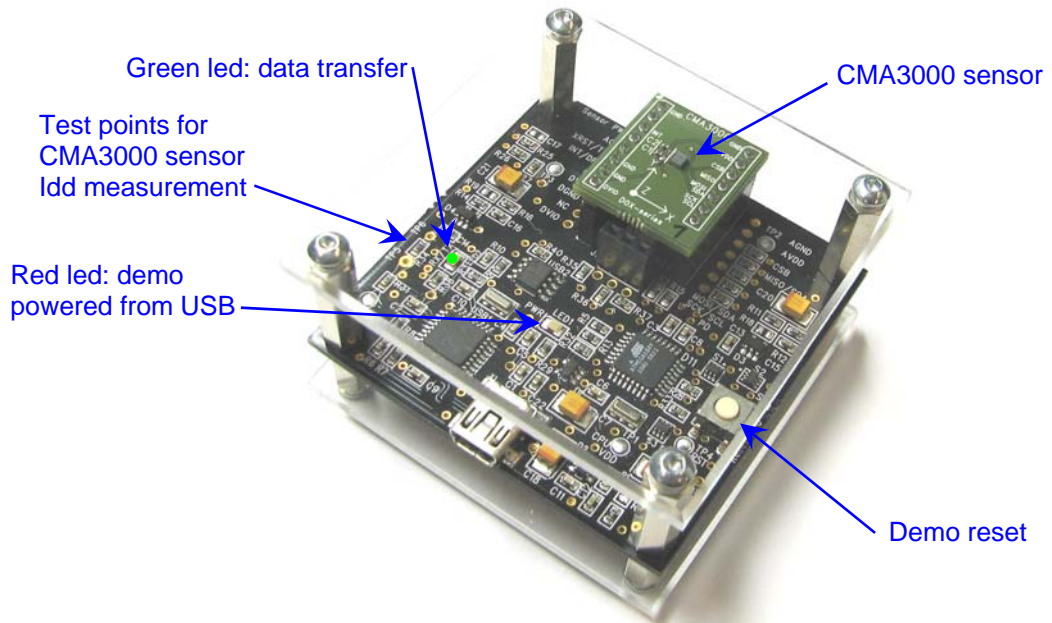
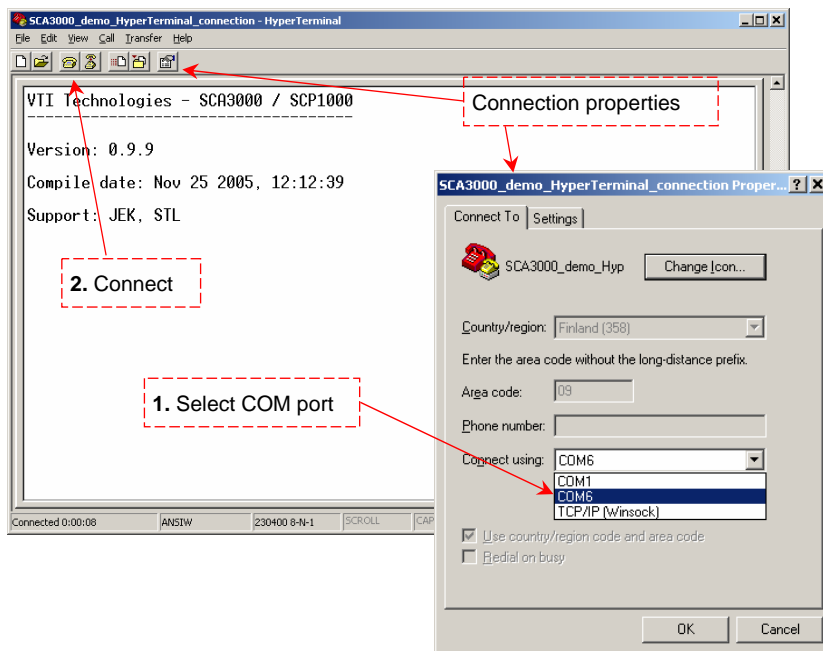

Figure 1. CMA3000 demo USB interface board and CMA3000 PWB.
Figure 12. Windows HyperTerminal with CMA3000 demo info text.
- CMA3000 sensor soldered on chip carrier PWB (see Figure 1 on next page)
- USB interface card (see Figure 1 on next page)
The CMA3000 DEMO KIT USB interface board (black PWB) and CMA3000 PWB (green PWB) are shown in Figure 1. The USB interface card converts the USB interface to SPI or I2C interface. CMA3000 sensor is soldered on PWB which is connected to interface board.
MCU can be reset by exiting from the GUI and then pressing the reset button (Figure 1) on USB interface board.
5. Press demo reset button (see Figure 1). CMA3000 DEMO KIT sends an info text to HyperTerminal (see Figure 12). If the HyperTerminal software is unable to connect the CMA3000 DEMO KIT or the info text does not appear,
until info text appears to HyperTerminal screen (see Figure 12).
- see if the info text appears on the screen (see Figure 12)→ if the info text is transmitted, the communication between the demo kit and PC is ok